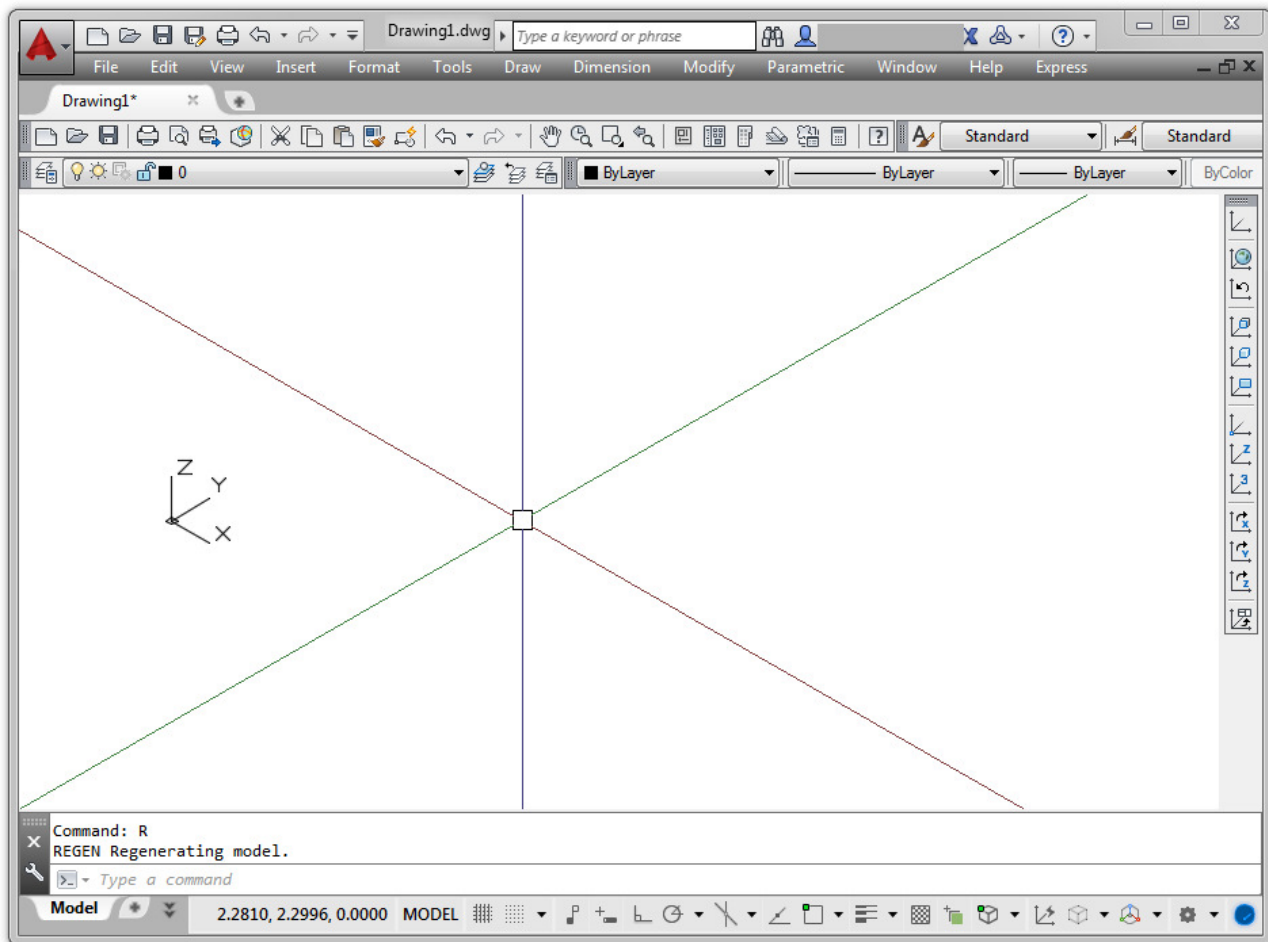

Figure Step 8
Step 8 Your Graphic screen should match the figure very closely. (Figure Step 8)